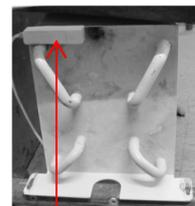

Figure 25:
- Prefabricated convector type 10 (also for types 15 and 20 (2-ply): see Figure 25
- Prefabricated convector type 10 (also for types 15 and 20 (2-ply): see Figure 25)